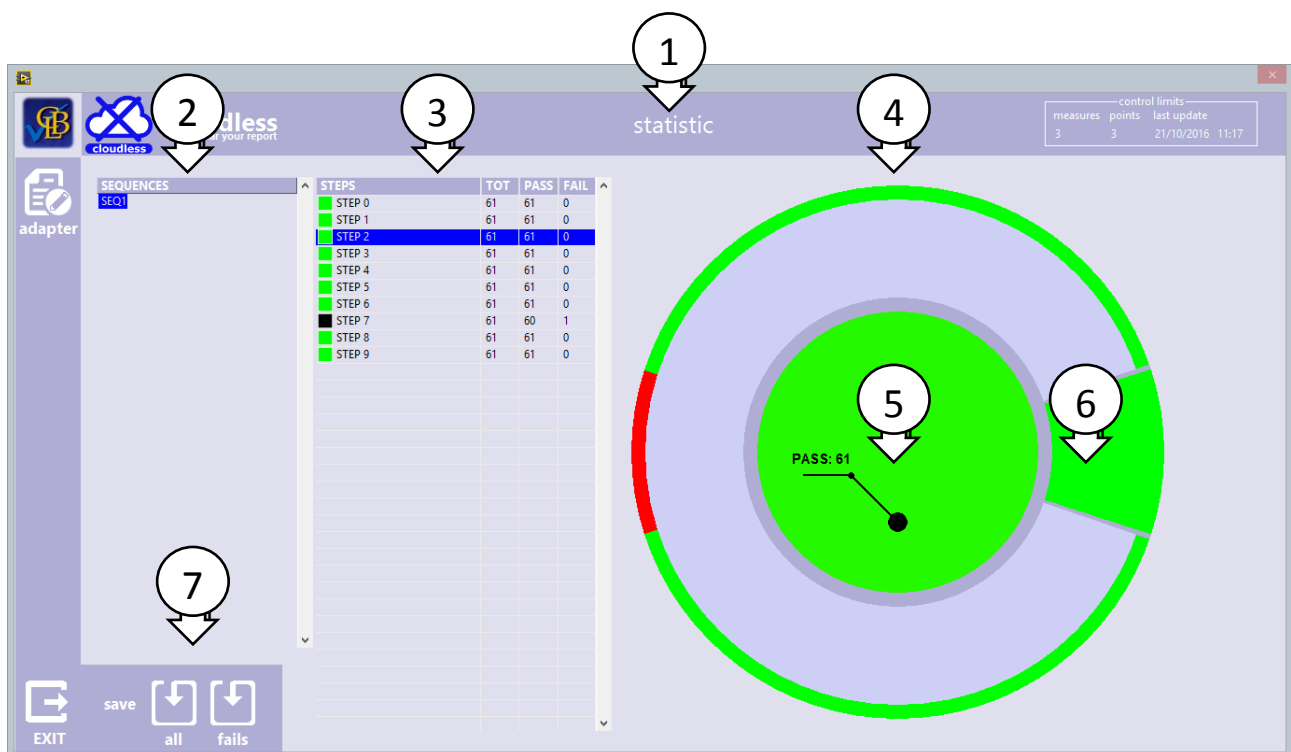

Figure 19: statistic subpage
Select from the top-side bar the item **statistic** (1): the subpage of Figure 19 will appear on the video.